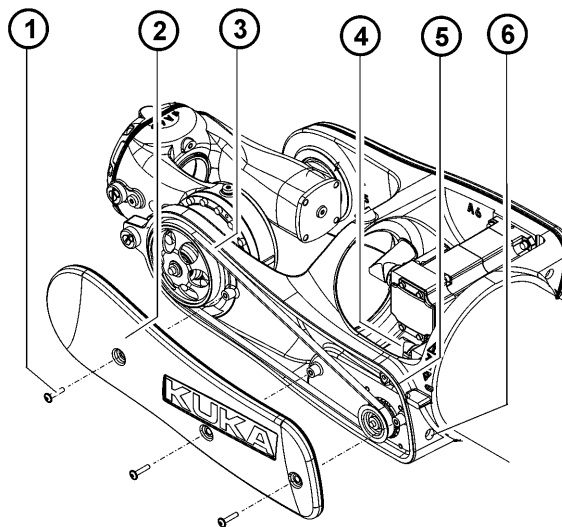

Fig. 11-17: Removal, installation of toothed belt for axis 5
1. Remove 3 fillister head screws (>>> Fig. 11-17) and take off cover and seal.